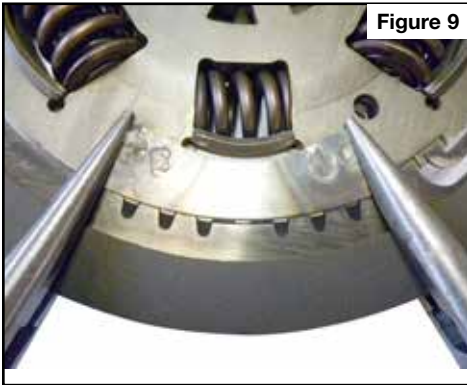

Figure 9
- Once in place, weld tops of the eight milled rivets (**Figures 9 & 10**).